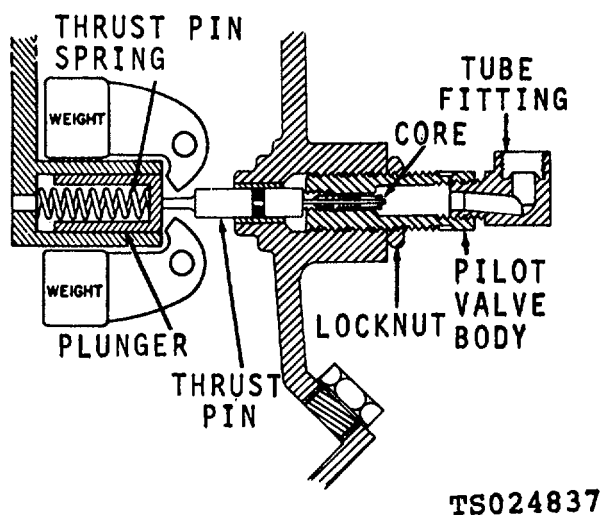
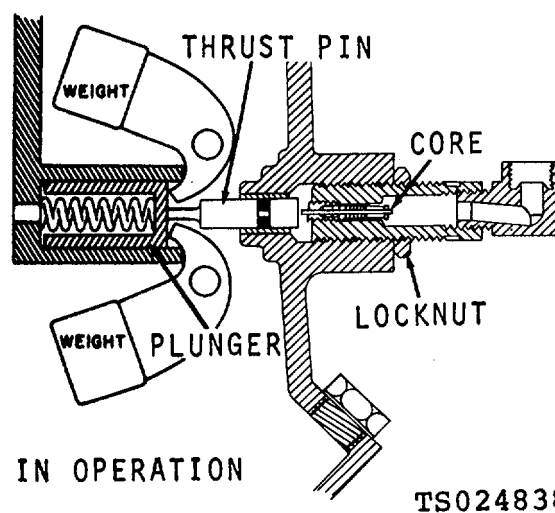

Figure 3-5. Pilot Valve adjustment.
Figure 3-6. Position of weights and core when compressor is operating.
(1) Visually inspect for excess accumulations of dust, dirt or film of oil.
(2) Test for heat by touching intercooler tube, aftercooler tube, or cylinder head.
(3) Check pilot valve for signs of leaking.
(4) Listen for excessive start-stop cycling.
(5) Listen carefully for a knock or rattle that might signify internal damage.
(6) When any of these inspections disclose abnormal conditions, refer to Table 3-3 above.
b. *Adjustment.* To adjust the outside exhaust pilot valve, refer to figure 3-5 and proceed as follows:
- (1) Stop the compressor, remove tube fitting (fig. 3-5) from the pilot valve body. Loosen locknut and remove the pilot valve body.
- (2) Screw the pilot valve assembly into the frame cover until the thrust pin is felt, then advance valve another  $\frac{1}{4}$  to  $\frac{1}{2}$  turn and tighten locknut.
- (3) Install tube fitting into valve body, then re-connect tubing.
- (4) Start the compressor, then place hand over pilot valve tube to atmosphere (fig. 3-6).
- (5) If there is no flow of air, pilot valve is properly adjusted. When air flow is evident, readjust valve starting with step (1).